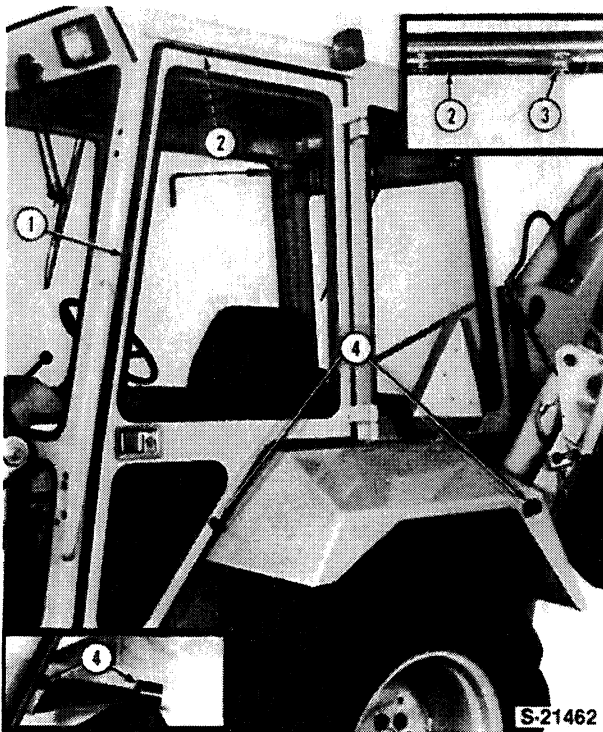

Figure 10
Cab Door: The cab door is equipped with the same type gas cylinder as the side window. To increase ventilation in the cab, the side door may be hinged back against the rear fender. Remove the clevis pin securing the door cylinder to the cab and fully open the door, be sure the door is retained in position by the stop located on the fender (4), Figure 10.